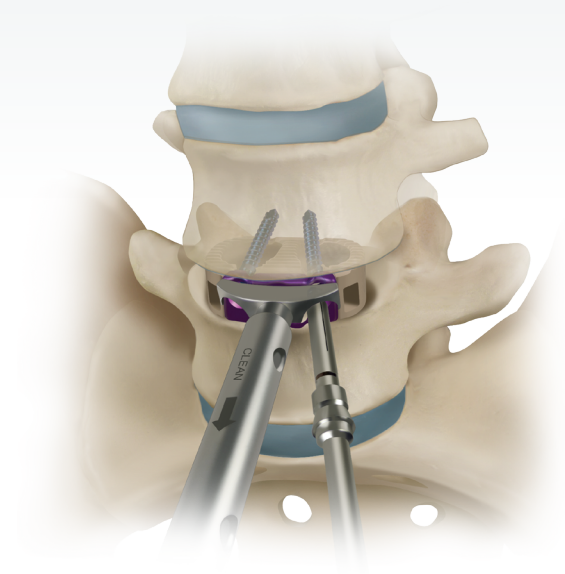

Figure 23:
- Insert the screw into the prepared screw hole (**Figure 23**).